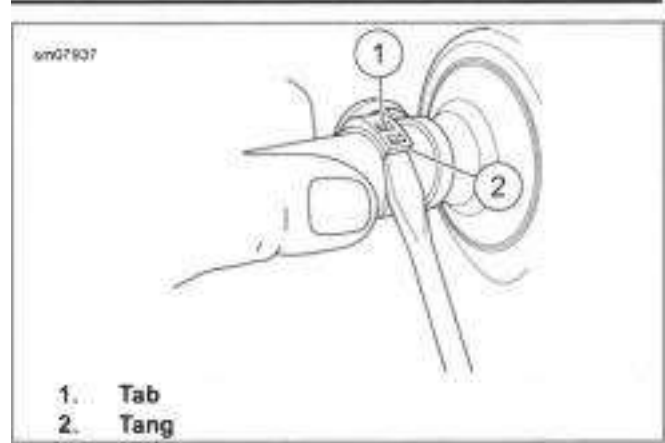

Figure 4-10. Removing Crimp Clamp
1. See Figure 4-10. Push the tip of a small screwdriver under end of tang (2).